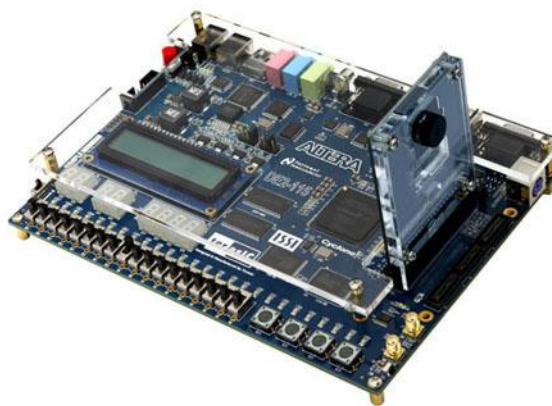

Figure 3-2 The Connection Setup for DE2-115 users
2. Ensure the connection is made correctly as shown in **Figure 3-2**. Make sure the D5M is connected to **JP5 (GPIO)** of the DE2-115 board.